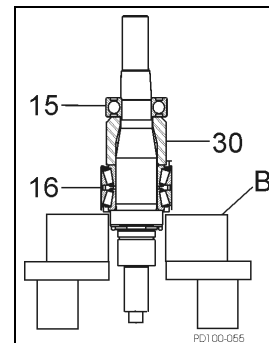

Figure 44 - Remove Bearings From Shaft
11. Use hydraulic press and V-blocks (Figure 44, item B) to remove bearings (items 15 and 16) and spacer (item 30).